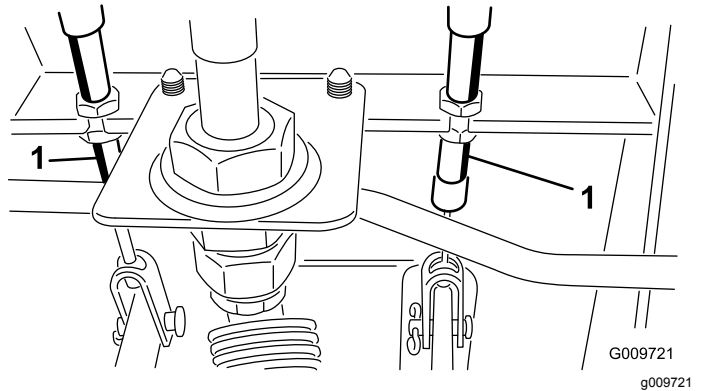

Figure 112
- A. Loosen the front nut on the threaded end of the brake cable (Figure 112).